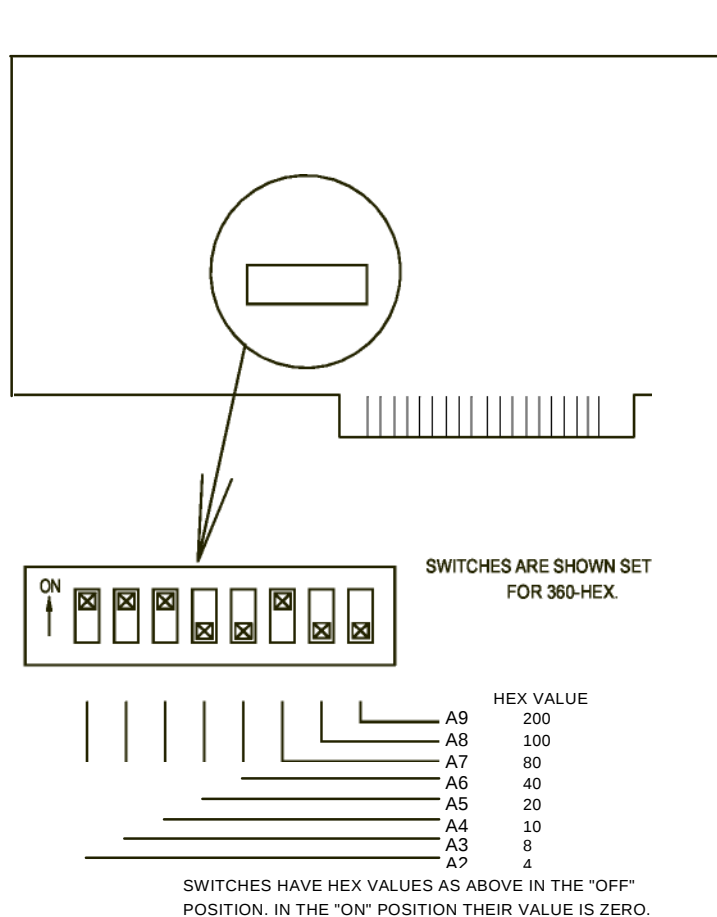

Fig. 2
- **For the PC2000 the addresses will be in hex format, e.g. &H360, etc.** You may select any address from 300-hex to 3FC-hex, however you will need to change the dipswitch settings on the interface card to correspond to the desired address. See fig 2 for examples of switch settings.